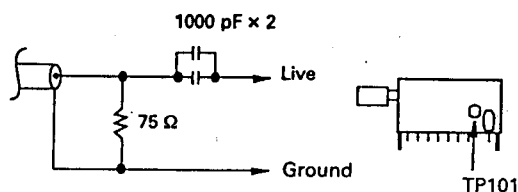

Fig. 1
1. Apply a carrier frequency of 38.9 MHz to pin ⑤ of IC 201. Connect pin ⑥ of IC 201 to ground. (Use a probe as shown in fig. 1).
1. Apply a carrier frequency of 5.5 MHz to pin ⑧ of IC 201. (Use a probe as shown in fig. 1).
3. Using a DC voltmeter on the 10 V full-scale range, measure voltage at pin ⑪ of IC 201, should read 4.5 V DC approx.
1. Connect a sweep generator to Tuner TP 101. (Use a probe as shown in fig. 1).